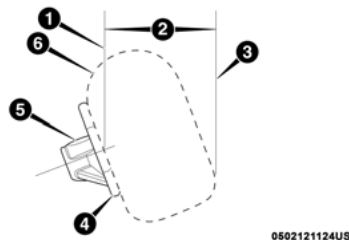
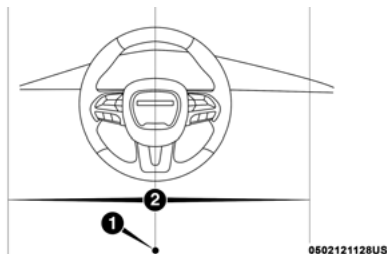

Figure 1 – Driver Air Bag Deployment Zone,
Figure 2 – Driver Air Bag Lateral Deployment Zone,
1. Driver Air Bag Deployment Zone (Figure 1) and Driver Air Bag Lateral Deployment Zone (Figure 2)